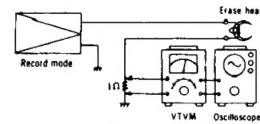

Fig. 16
<p>Erase current</p> <p>Condition:</p> <ul style="list-style-type: none"> Record mode <p>Equipment:</p> <ul style="list-style-type: none"> VTVM Oscilloscope Resistor (1Ω) 	<ol style="list-style-type: none"> Connect 1Ω resistor between ground side terminal of erase head ground lead wire removed (See fig. 16). Connect VTVM to both ends of 1Ω resistor. Place UNIT into record mode, and measure voltage across the 1Ω resistor. Determine erase current with the following formula: $\text{Erase current (A)} = \frac{\text{Voltage across both ends of } 1\Omega}{1\Omega}$ <p style="text-align: center;">Standard value: 60 ± 15 mA (bias selector ... low)</p>